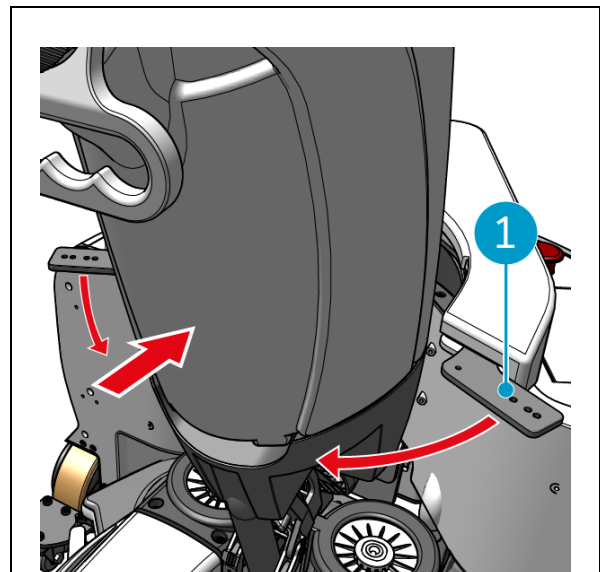

Figure 20
4. Close the fix ring (Figure 20, pos. 1) around the i-mop XL.